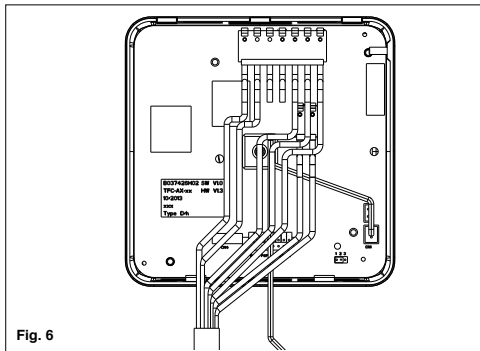

Fig. 6
Open the control by loosening the screw ⑥ used to close the control (see fig. 6). Connect the sensor on the connector side of the electronic board to connector ② (see fig. 6).